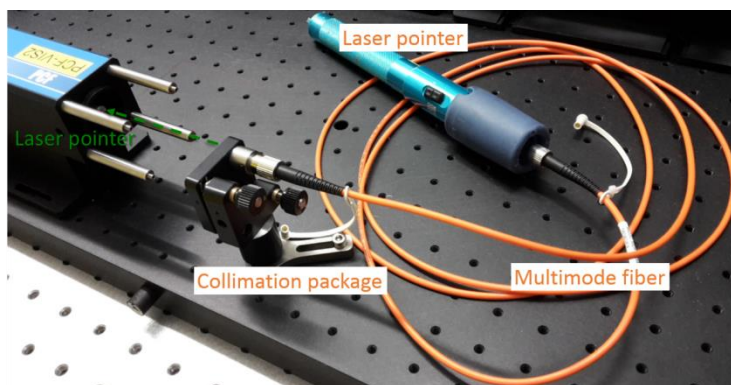

Figure 18: Incoupling of laser pointer light from the backside of the PCF.
- The easiest way to pre-align the light into the PCF is using a test laser that shines throught the PCF from the back side. You can use a laser pointer, a multimode fiber and a collimation package, as shown in Figure 18.